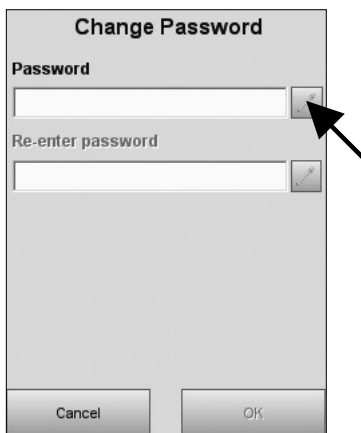

Fig. 3-67 Enter Password
3. Press  to enter the new password (Fig. 3-67).